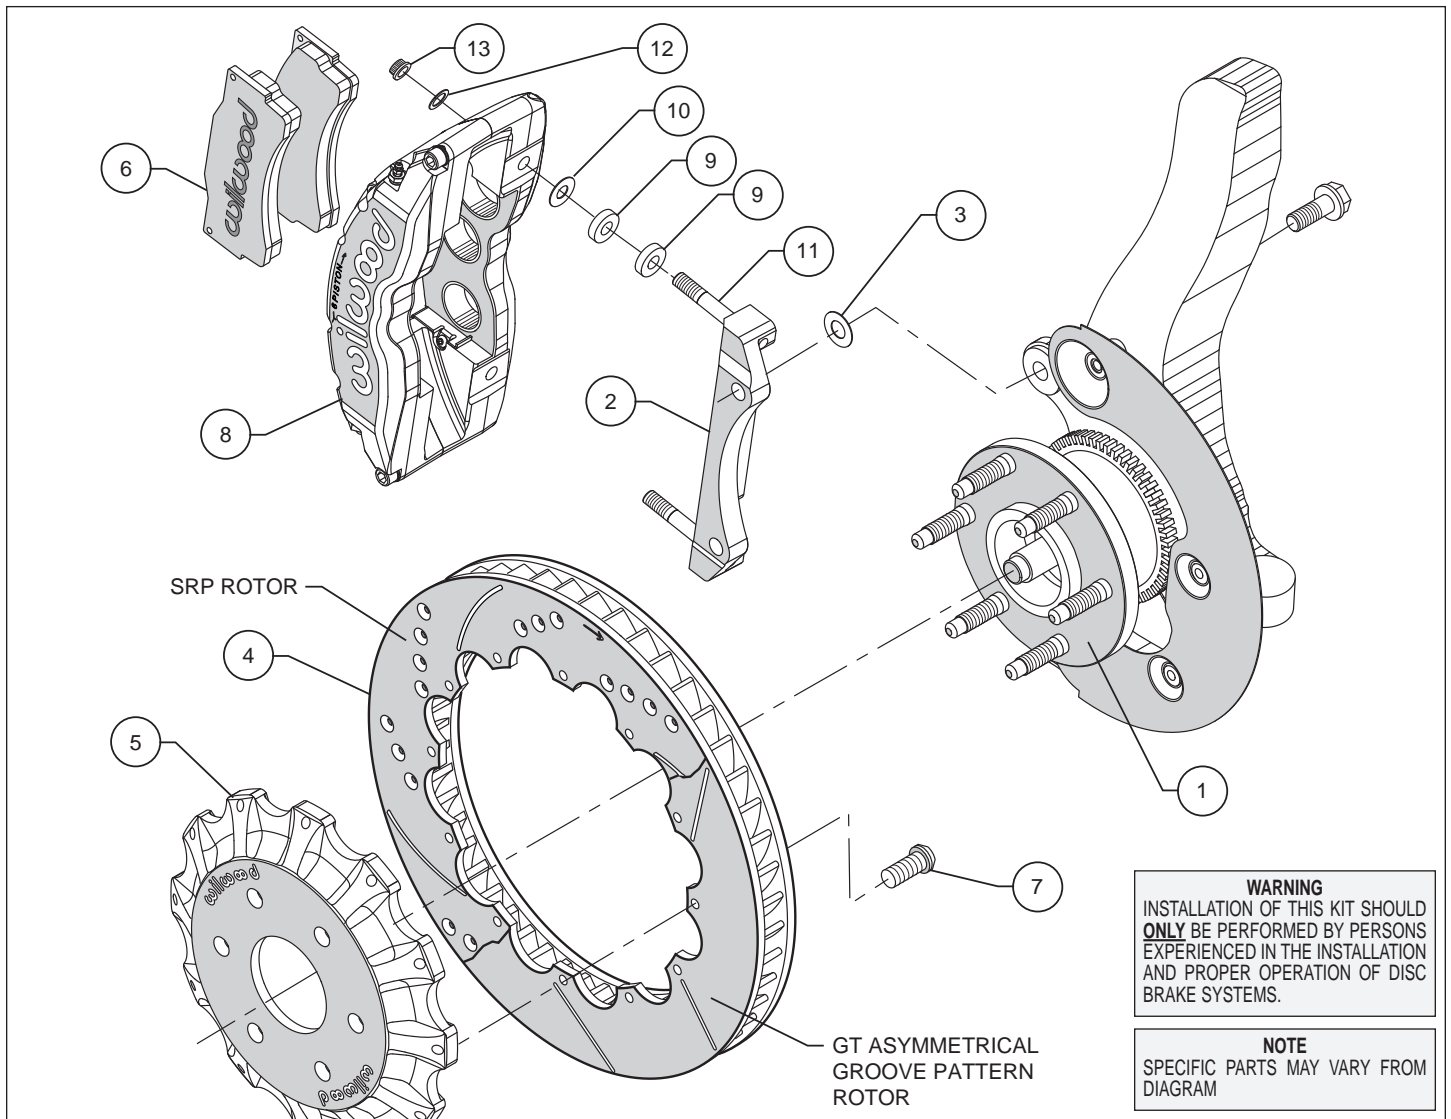

Figure 1. Typical Installation Configuration
- The caliper mounting bracket assembly (2) should be installed first with clean, dry threads on the mounting bolts. Install the bracket from the outboard side of the spindle by sliding the stock bolt through from the backside. Place shim washer (3) between the bracket (2) and the spindle (see Figure 1). The bracket must tighten squarely against the side of the spindle body. Inspect for interference from casting irregularities, machining ridges, burrs, etc. Use one thin shim (3) between the bracket (2) and spindle during initial trial fitting.
- With the larger I.D. side of the rotor (4) facing away from the hat (5), attach rotor (4) to hat (5) using bolts (7) as shown in Figure 1. Finger tighten. Using an alternating sequence, remove bolts (7) one at a time, apply red *Loctite*® 271 to the threads and torque to 25 ft-lb.
- NOTE:** *Please reference the caution statement at the beginning of the assembly instructions.* Install two spacers (9) and one shim washer (10) over each pre-installed stud (11) on the radial mount bracket (2). Slide the caliper (8) in place over the studs and rotors and install the washer (12) and lock nut (13) to hold the caliper in place. The caliper bleed screws should be pointing up. Snug the lock nuts (13) and check that the rotor (4) is centered in the caliper (8). Add or subtract .024" shims (3) as necessary between the caliper mounting bracket (2) and the spindle to center the caliper (8).
- Remove the two caliper center bridge pad retainer bolts, nuts, tubes, and anti-rattle clips from the caliper. Slide the brake pads (6) into place. They should install easily without interference. Check that the outside radius of the brake pad is aligned with the outside diameter radius of the rotor face. Add or subtract shims (10) between the caliper and mount bracket to gain the proper alignment. Reinstall the first center bridge pad retainer and tube while sliding the bolt thru the mounting holes on the end of the anti-rattle clip, screw on the locknut. Push the opposite end of the anti-rattle clip downward and secure the second center bridge pad retainer tube, bolt and locknut on top of the anti-rattle clip, thus holding it firmly against the brake pads. The locknut should be snug without play in the bolt or tube. Be cautious not to over tighten.
- Once all clearances have been checked, remove the wheel, caliper, hat, and rotor from the spindle and hub. Secure the caliper mounting bracket (2) to the spindle with original bolts using red *Loctite*® 271. Torque the bolts to 85-95 ft-lb. Reinstall the hat and rotor assembly and again use lug nuts to hold it in place. Lubricate caliper mounting studs and nuts with lightweight oil, reinstall the caliper, torque the caliper nuts (13) to 47 ft-lb.